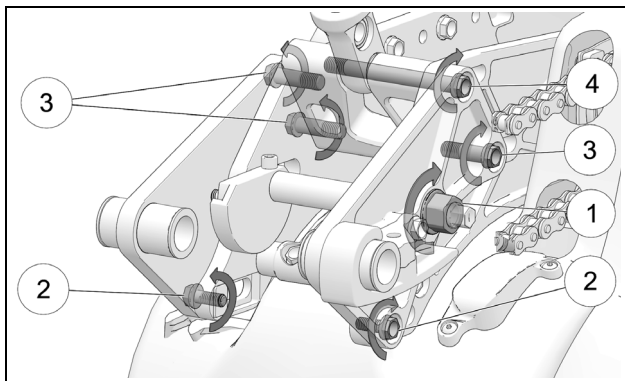

Figure 45
- Tighten in sequence: the eccentric bolt nut (1) to 61 Nm (45 lb-ft); the four M10 bolts (3-4) of the Strut block to 41 Nm (30 lb-ft); and the two M8 bolts (2) at the front of the Bike Mount to 25 Nm (18 lb-ft). See Figure 45.